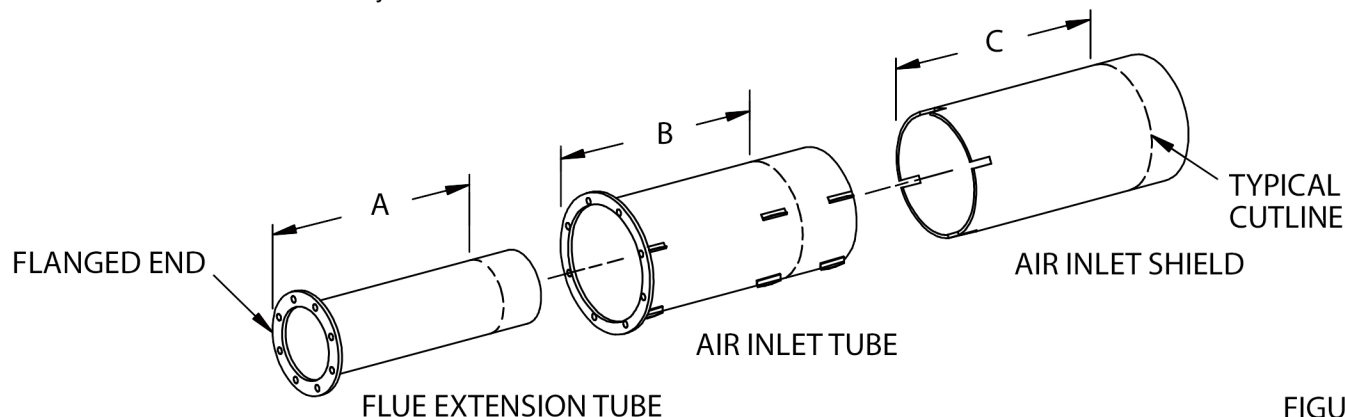

FIGURE 1
4. Measure and cut tubes to the calculated lengths. NOTE: Do not cut the wrongs ends of the tubes. (See Figure 1) cut lines and flanges.
7. Refer to figure 5, page 8 in your OWNERS MANUAL and to figure 1 on this sheet. From the outside, push the Air Inlet Shield "J" over the Air Inlet Tube "C". Rotate Air inlet Shield until the notches on the end of the Shield are straddling the standoff tabs on the Mounting Spacer Plate "A". Push the Air Inlet Tube until the notched end is resting against the screw heads holding the Air Inlet Tube to the furnace. Tube ends should now be flush with the outside wall. If not, recheck for proper tube positions. Adjust or trim the tubes as necessary.